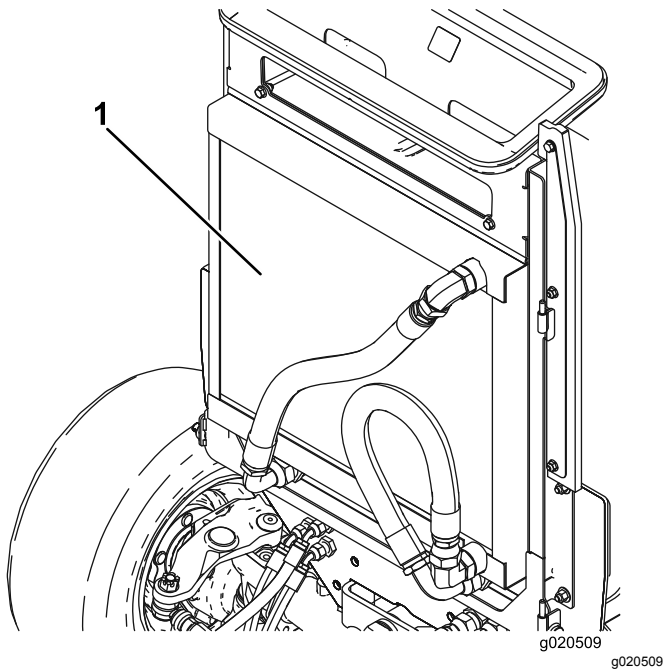

Figure 50
- Clean both sides of the oil cooler/radiator area (Figure 50) thoroughly with compressed air. Start from the front and blow the debris out towards the back. Then clean from the back side and blow towards the front. Repeat procedure several times until all chaff and debris is removed.